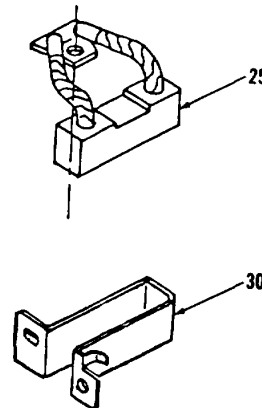

Figure 4-51.
2. Check four holders (30, Figure 4-51) for dirt. Four brushes (25) must not bind in brush holders (30). Springs on brush holders (30) must hold brushes (25) firmly against commutator. Replace brush holders (30) if defective.